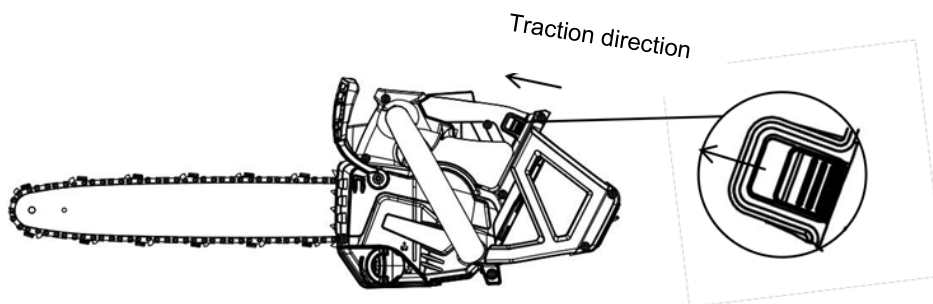

Fig 13
- a. Pull the battery lock button on the handle toward the guide bar, then remove the battery pack from the socket (Fig. 13).